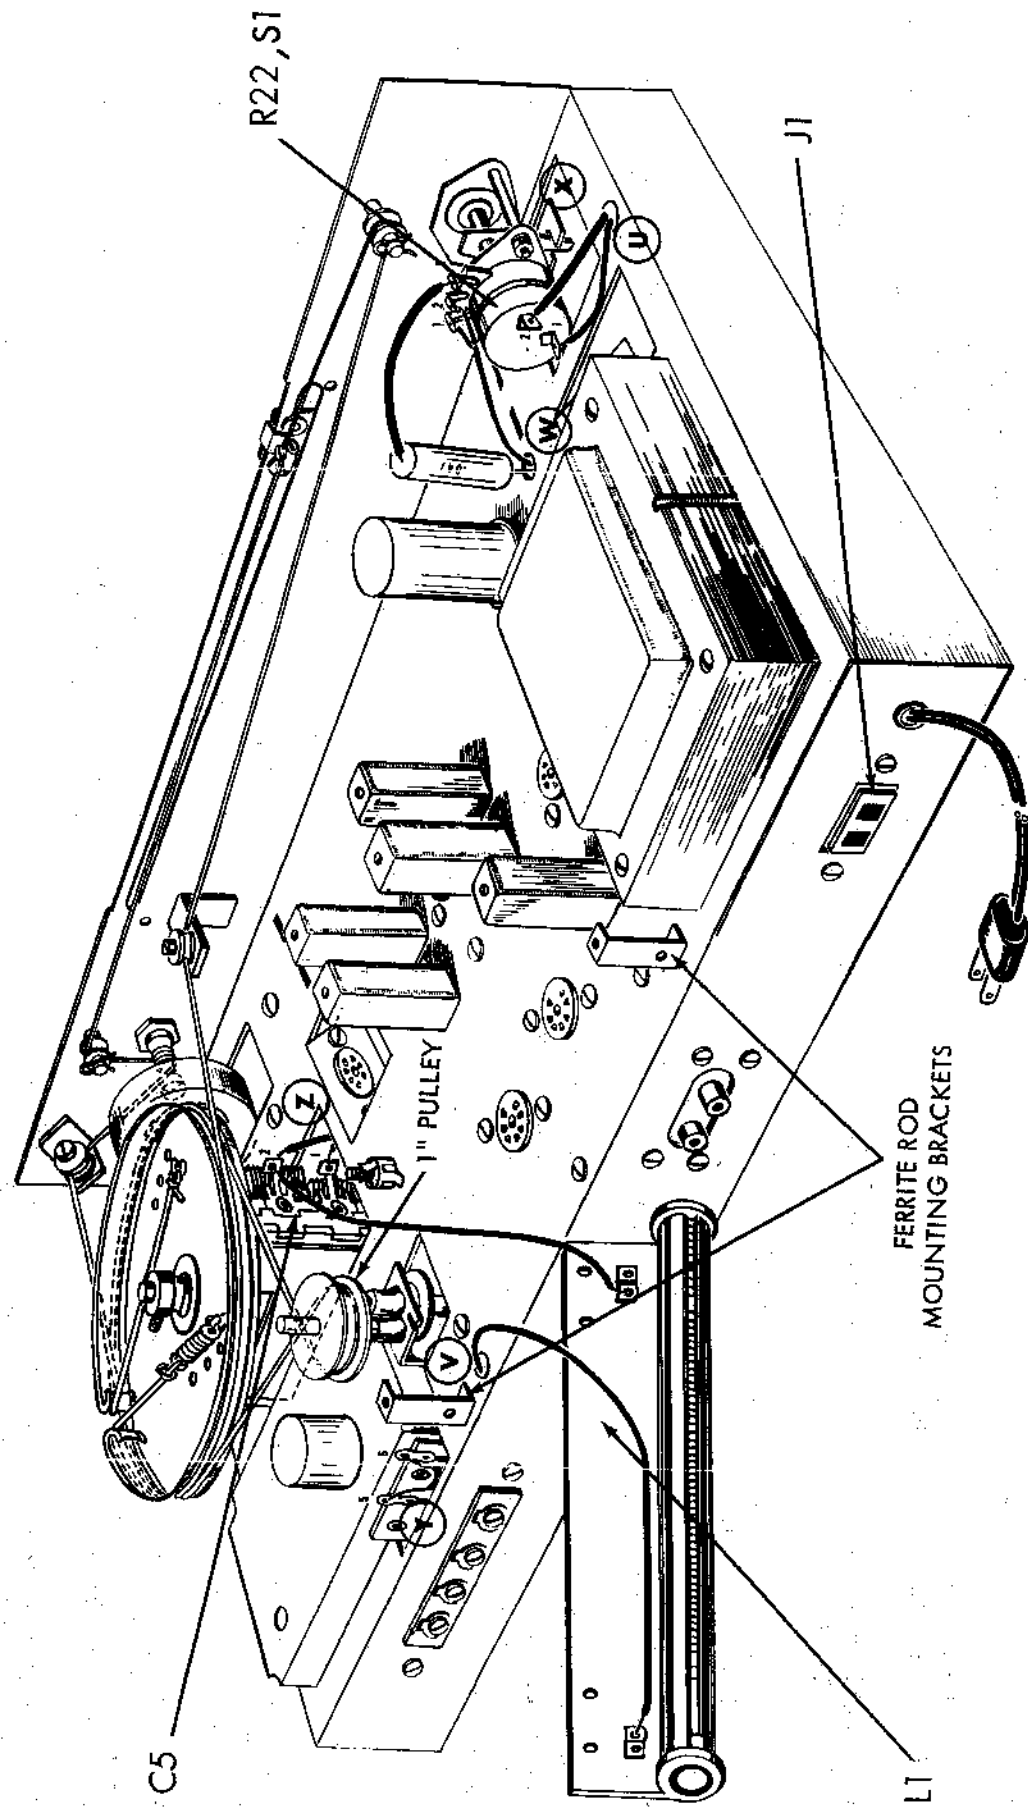

Fig. 10
- (1) 8. Fig. 9. Cut both leads on a .047 mfd (yellow, violet, orange, white, blue) molded capacitor C22, to 1 1/4". This capacitor is mounted on the top of the chassis, as may be seen in figure 10. Cover one lead with a 1" piece of spaghetti. Push this lead from the top of the chassis, through hole "W" to the bottom of the chassis. Connect this lead to S2-15 (S1).
- (1) Fig. 10. From hole "W" connect the inner conductor of the shielded lead to R22-2 (S1) and the twisted shield strands to R22-1 (S1).
- (2) Fig. 10. A .047 mfd capacitor has been previously mounted with one lead passing to the bottom of the chassis through hole "W". Cover the remaining lead of this capacitor with a 1" piece of spaghetti and connect to R22-3 (S1).
- (3) Fig. 10. Connect the grey lead from hole "Z" near the variable capacitor, C5, to C5-2 (C). Dress the lead away from the rotor on the capacitor towards the front of the chassis.
- (4) Fig. 10. From the ferrite rod assembly, L1 push the black lead through hole "Y" to the bottom of the chassis. Connect the white lead to C5-2 (S2). Connect the black lead to TB4-3 (S4). See Fig. 9.
- (5) Fig. 10. From hole "Y", connect one lead from the flat cable to terminal 5 (S1) on the FM Front End Assembly and the second lead to terminal 6 (S1).
- (6) Fig. 10. In the 1" pulley, insert a #8-32 set screw. Mount the pulley on to the RF Assembly shaft. Push the pulley down on the shaft so that 5/16" of the shaft protrudes about the top of the pulley. Tighten the pulley to the shaft with the set screw on the pulley.
(7) Fig. 10. Mount the ferrite rod assembly, L1, on the ferrite rod mounting brackets, as shown in Figure 12. Turn the ferrite rod so that the flat part of the mounting bracket is facing up.
(8) Fig. 10. From the rear, at the outside of the chassis, push the tinned leads of the line cord through the grommet. Inside the chassis, tie a knot in the line cord, 8" from the solder leads, so that the line cord cannot pull out through the grommet. Separate the two wires in the line cord by pulling the leads apart until the knot. Cut one wire to 2". As shown in figure 9, connect this wire to J1-1 (S2).
(9) Fig. 10. Connect one end of an 8" piece of black wire to J1-2 (S2). As shown in figure 9, twist this lead with the remaining lead from the line cord mounted in the previous step. Run these leads along the chassis, as shown, and push these through hole "U" to the top of the chassis. On the top of the chassis, as shown in this figure, connect one of the leads from hole "U" to S1-1 (S1) and the second of these leads to S1-2 (S1).